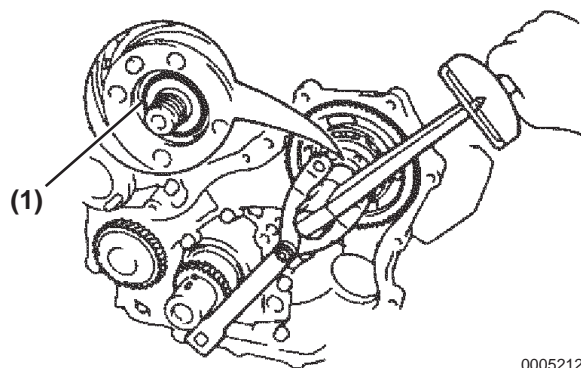

Figure 5-212
5. Install a new O-ring **(Figure 5-212, (1))** in the drive gear groove.
7. Tighten the gear nut and torque to 1,000 kgf-cm, 98.07 N·m (72.3 lb-ft) **(Figure 5-212)**.